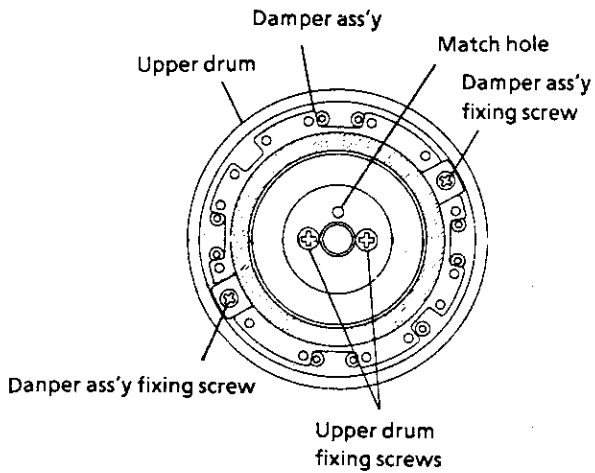

Figure. 2-23
- 1) Remove two damper fixing screws and detach the damper ass'y. (See Fig. 2-23)
- 2) Remove two fixing screws of upper drum to detach the upper drum. (See Fig. 2-23)